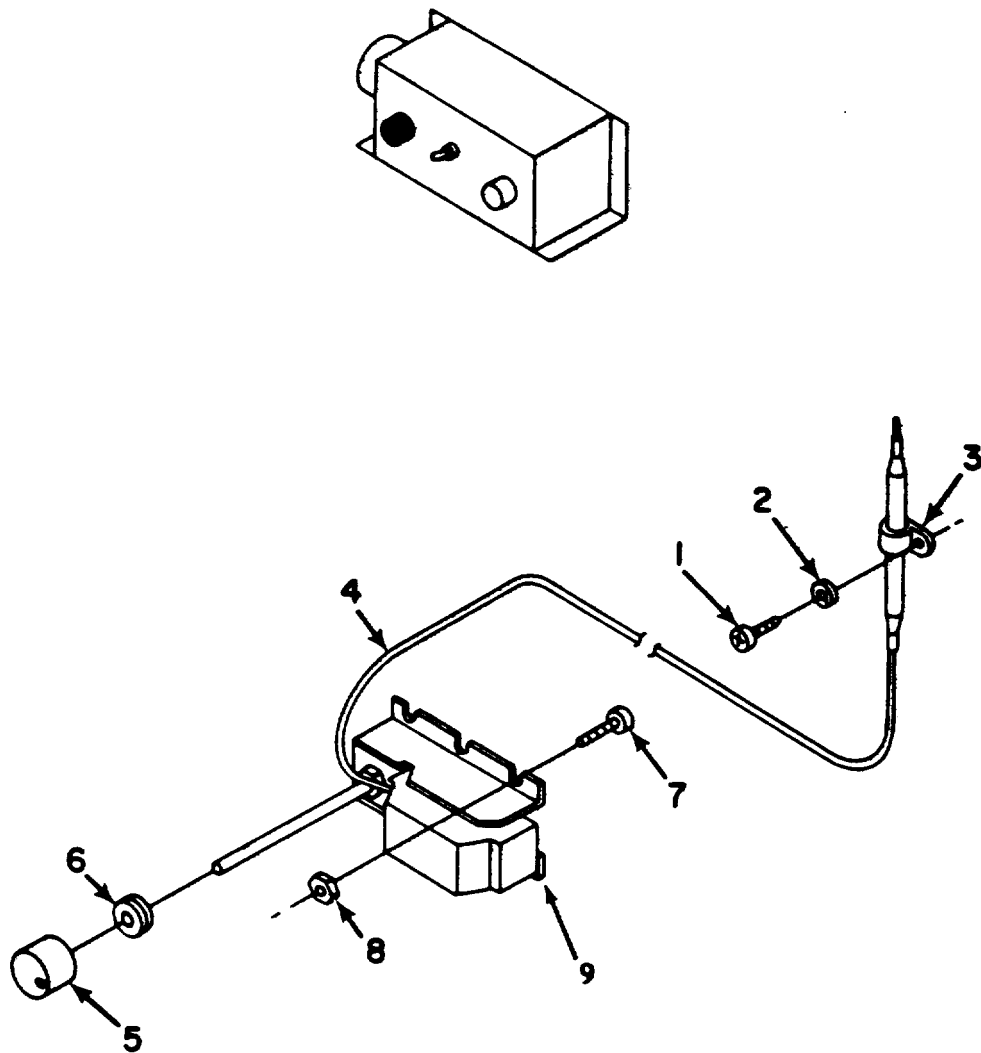

Figure 4-17. Temperature Control Switch (S1) .
9. Remove grommet (Figure 4-17, item 6) and carefully slide sensing line (6) away from panel (4).
10. Tag and remove electrical wires from (S1) (Figure 4-17, item 9).
3. Install temperature selector switch (S1) (Fig 4-17, item 9) to panel and secure with six screws (7) and nuts (8).